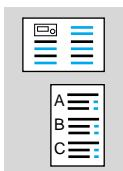

Fig.270 Connection of O₂ supply
23. Secure pneumatic O₂ control to basic housing using washer and nut (1) (**Note: The pressure regulator adjusting screw (2) of the pneumatic O₂ control must be visible from the outside through the opening in the basic housing.**), see Fig. 270.